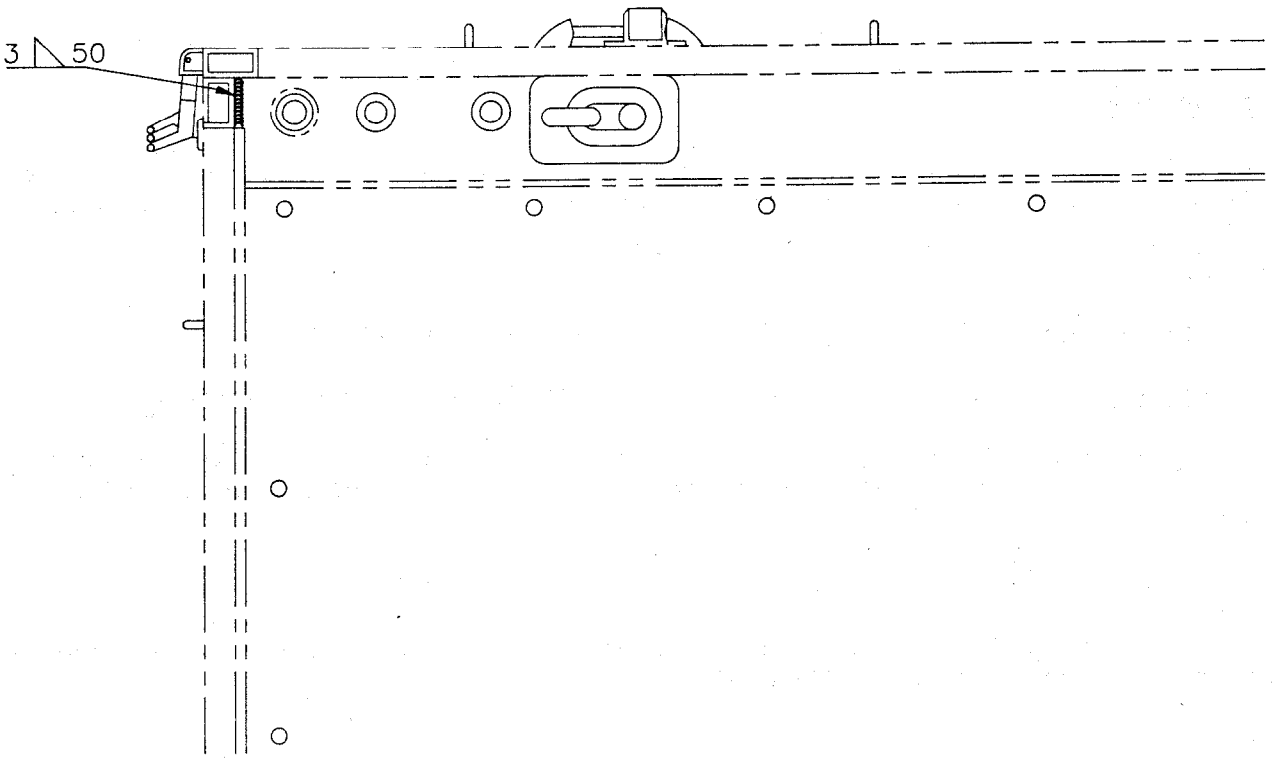

FIG 1 - WELDING DETAILS
- b. Weld both the right and left hand posts as shown in Fig 1, using NSN 3439-66-016-2218 Electrode Welding 2.5mm.